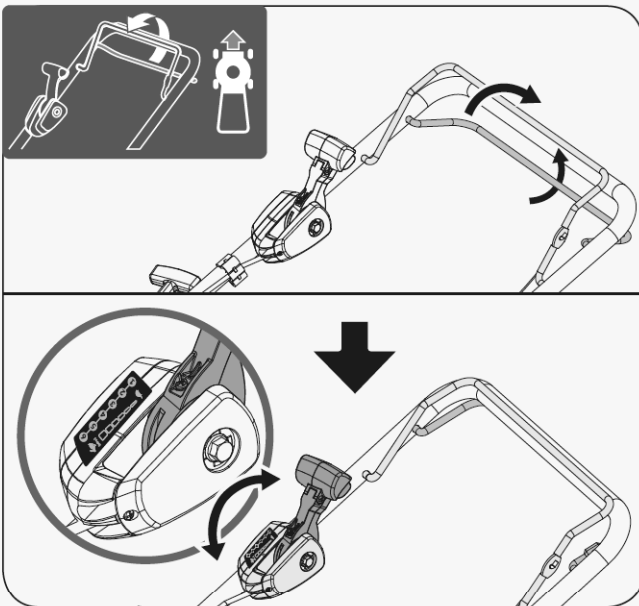

Figure 12
3. Release the drive control lever to disengage the drive, for example when you go near an obstacle. (See **Figure 12**)